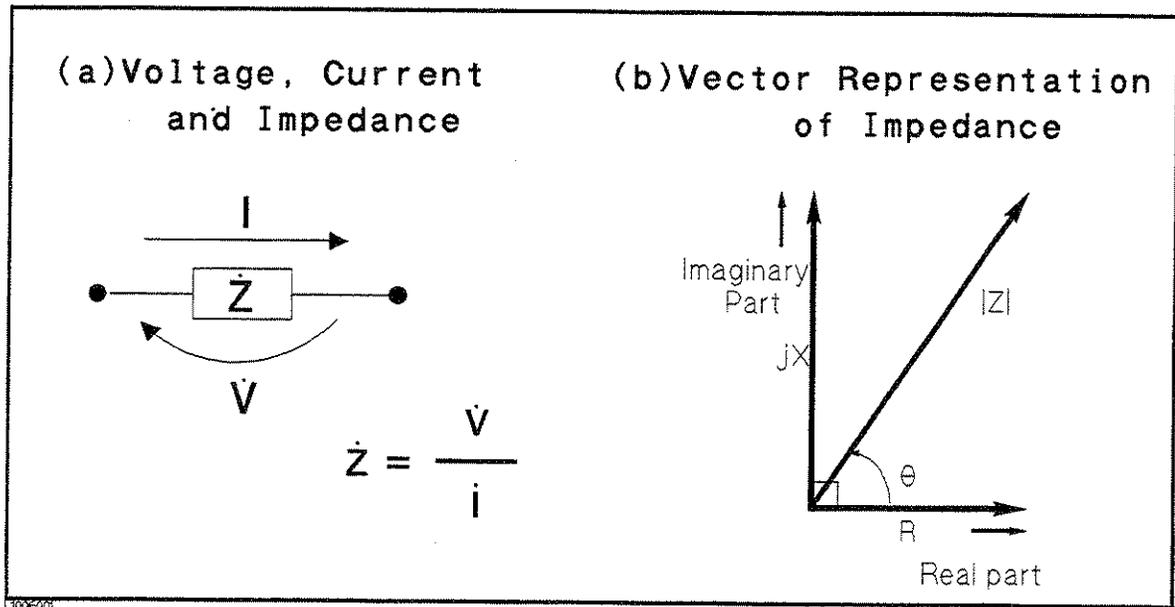

Figure 6-1. Definition of Impedance
Figure 6-1 (A) shows the impedance definitions and (B) shows vector representation of impedance. Impedance, Z is the total opposition that a circuit or device offers to the flow of alternating current at a given frequency. Z contains a real and an imaginary part, and it is expressed in rectangular form as Resistance and Reactance, or in polar form as magnitude of Impedance and Phase as follows.